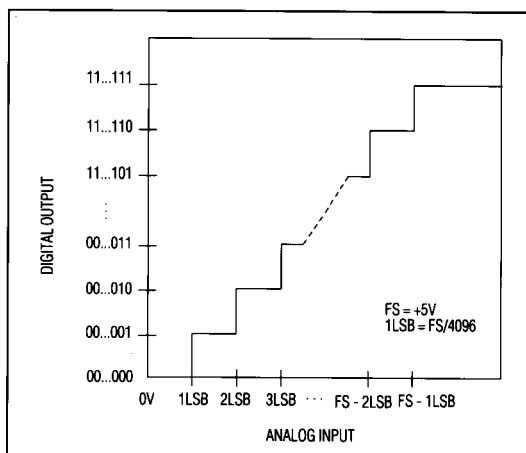

Figure 12. Ideal Input/Output Transfer Characteristic for Unipolar Circuit of Figure 11
input signal range are demonstrated in Figure 12 and Table 1. The MX7578 transfer characteristic transition points occur on integer multiples of 1LSB. The output code is natural binary, with: 1LSB = (Full Scale (FS)) / 4096 = (5/4096)V = 1.22mV.